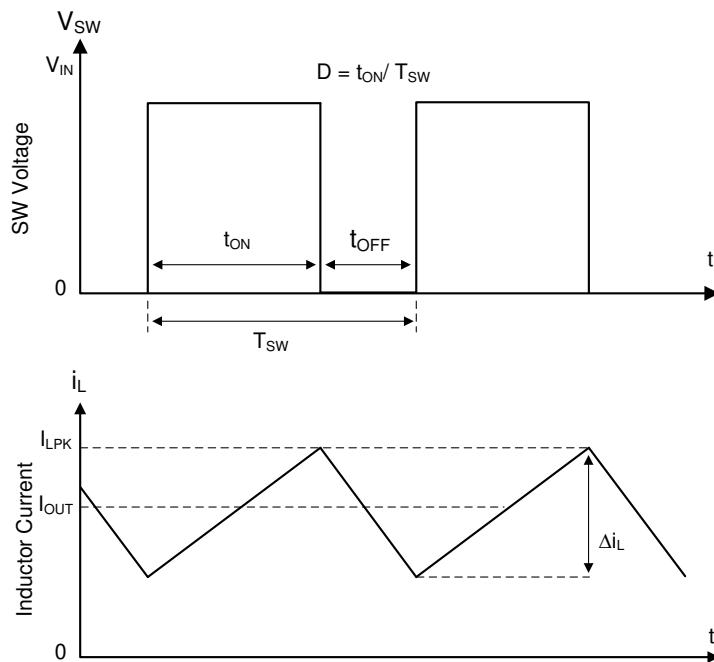

図 7-1. SW Node and Inductor Current Waveforms in Continuous Conduction Mode (CCM)
The following operating description of the LMR516x5 refers to セクション 7.2 and to the waveforms in 図 7-1. The LMR516x5 is a step-down, synchronous, buck converter with integrated high-side (HS) and low-side (LS) switches (synchronous rectifier). The LMR516x5 supplies a regulated output voltage by turning on the high-side and low-side NMOS switches with controlled duty cycle. During high-side switch ON time, the SW pin voltage swings up to approximately V_{IN} , and the inductor current, i_L , increases with a linear slope of $(V_{IN} - V_{OUT}) / L$. When the high-side switch is turned off by the control logic, the low-side switch is turned on after an anti-shoot-through dead time. Inductor current discharges through the low-side switch with a slope of $-V_{OUT} / L$. The control parameter of a buck converter is defined as Duty Cycle $D = t_{ON} / T_{SW}$, where t_{ON} is the high-side switch ON time and T_{SW} is the switching period. The converter control loop maintains a constant output voltage by adjusting the duty cycle D. In an ideal buck converter, where losses are ignored, D is proportional to the output voltage and inversely proportional to the input voltage: $D = V_{OUT} / V_{IN}$.